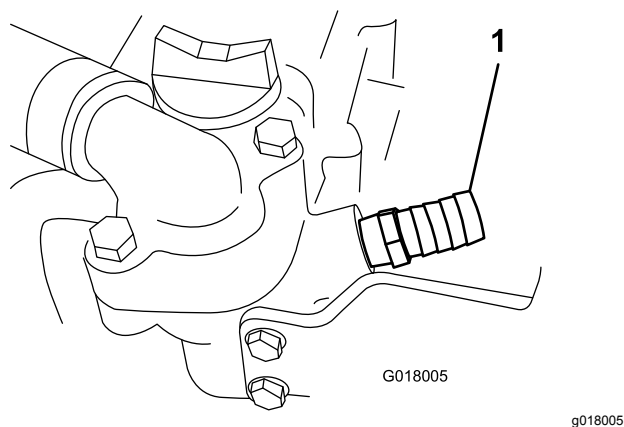

Figure 26
2. Put down a drip pan. Remove the plug under and to the front of the thermostat housing, apply pipe sealant to the threads on the straight fitting (5/8 inch), and install it on the machine (Figure 26).